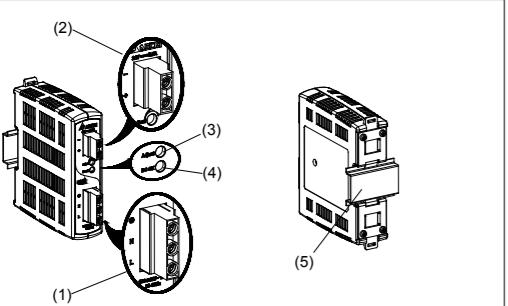

Figure 1
3. Device description (Fig. 1)